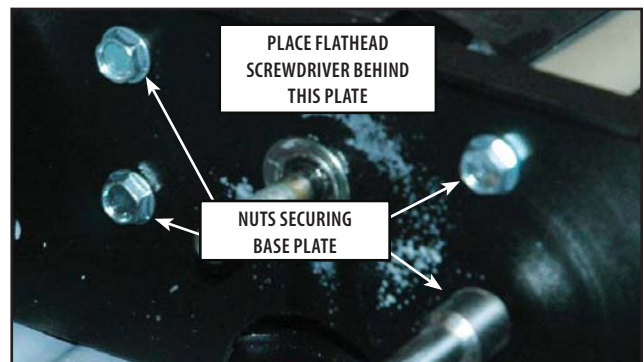

FIGURE 6.14
7. Using a 5/16" Socket Driver remove the 4 nuts and washers securing the Base Plate at the end of the Frame Base. **Refer to Figure 6.14.**
8. Using a large Flathead screwdriver, gently pry the plate off of the Ball Screw. **Refer to Figure 6.14.**